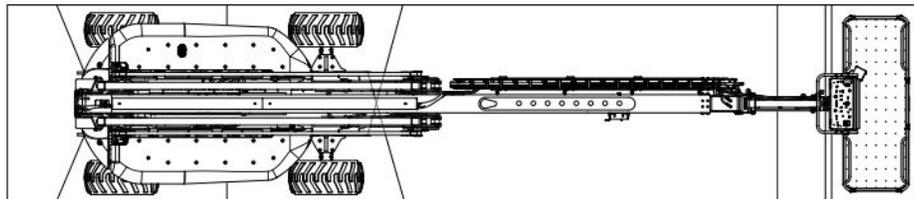

Figure 24 Tie-down Points
6. Anchor down MEWP to transport surface using tie-down points (refer to Figure 24).